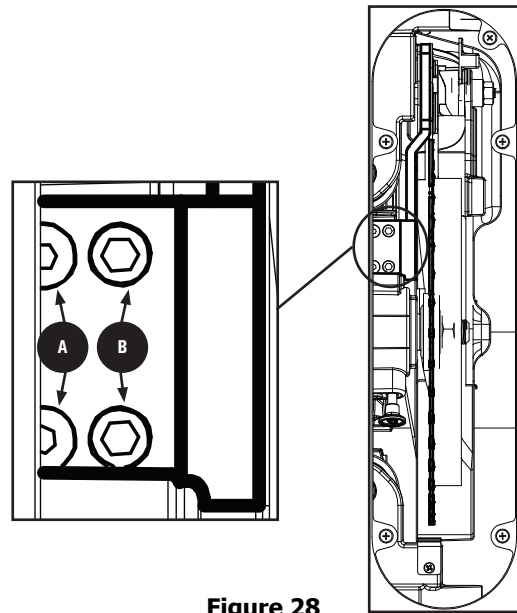

Figure 28
2. Loosen the two hex-head screws **A** shown in Figure 28.
4. Tighten the two hex-head screws **A**, see Figure 28.
5. To adjust parallel alignment use the two set screws **B**, see Figure 28. Clockwise: adjust riving knife to the right. Counter-clockwise: adjust riving knife to the left. If needed, use the set screws to align the riving knife with blade face and the square.